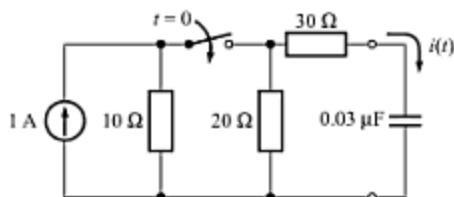

Fig. E-16
- E-21.** The switch in the circuit shown in Fig. E-16 is closed at $t = 0 \text{ s}$. Determine the current $i(t)$ through the capacitor. [Ans. $0.183e^{-t/1.1 \mu\text{s}}$]